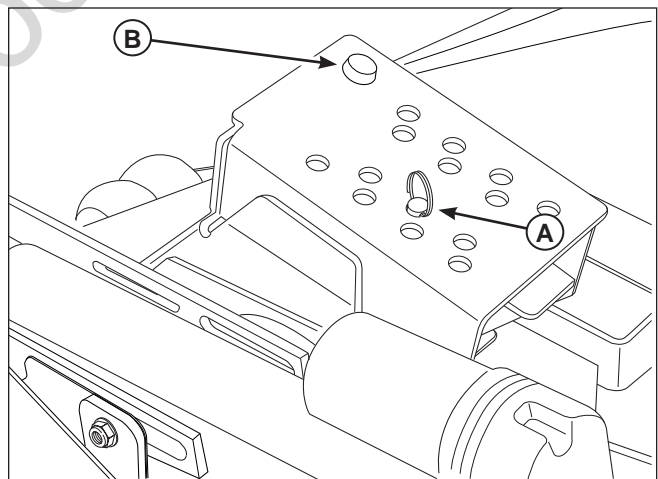

Figure 17. Mowing Height Adjustment
4. Retract the actuator until contact is made with the cutting height adjustment pin (**A, Figure 17**). Continue to retract the actuator until the operating position indicator lamp (**B**) stops flashing and shuts off.